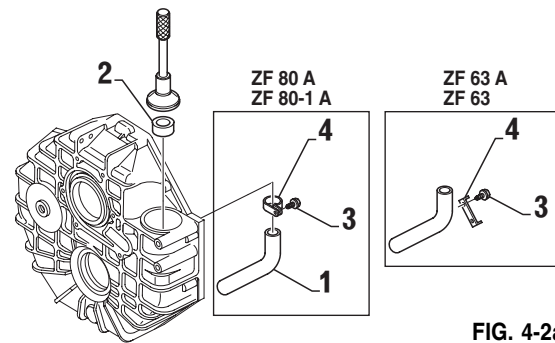

FIG. 4-2a
- Position oil suction pipe (item 1, Fig. 4-2a) in the housing.
- Lightly tighten the screw (item 3, Fig. 4-2a).